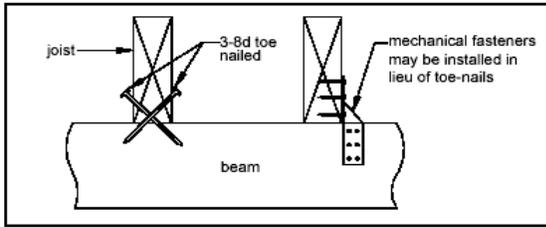

Figure 17 - Joist-to-Beam Detail
**Joist-to-Beam Connection:** Each joist shall be attached to the beam as shown in Figure 17. Mechanical fasteners shall be galvanized with 1.85 oz/sf of zinc (G-185 coating) or shall be stainless steel.